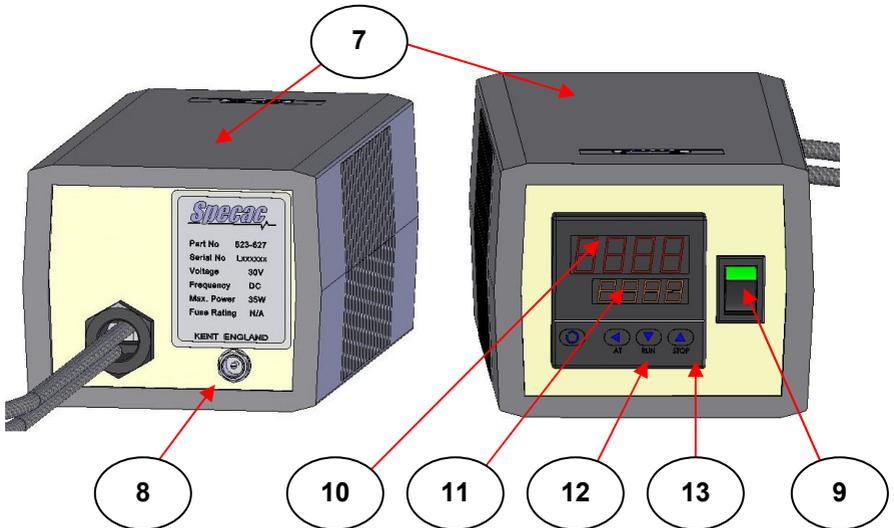

Fig 4. Rear and Front Views of Mini-Film Maker Controller
Fig 4. shows the rear and front panel details of the controller (7). For the rear panel details the socket connection (8) is where the power connection cable is placed from the 30V power supply pack supplied. (See checklist of contents). Three different mains power supply cable leads have been provided to connect the power supply pack to a mains supply. Choose the appropriate power cable for your mains supply wall socket and connect the mains cable lead to the three pin connection socket on the 30V power supply pack.